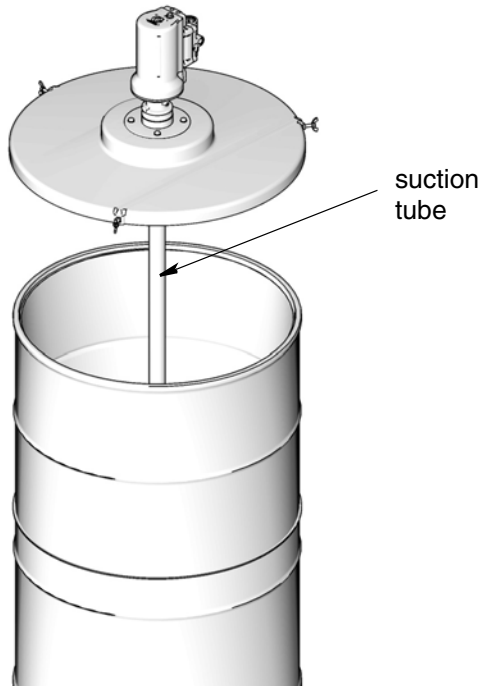

FIG. 28
7. Insert pump suction tube through center of rubber grommet (15b) in follow plate (15) (FIG. 28).